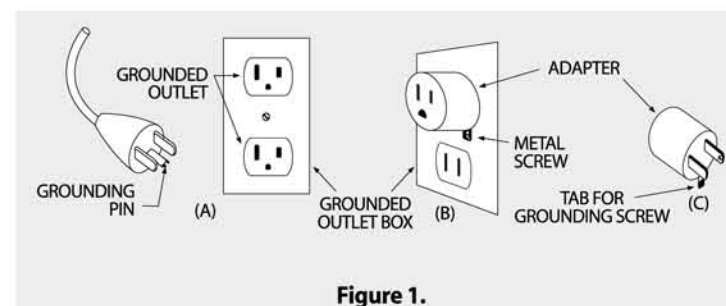

Figure 1.
Grounded cord-connected products, rated 15 A or more, intended for use on a nominal 120 V supply circuit. This product is for use on a nominal 120 V circuit, and has a grounding plug that looks like the plug illustrated in Figure 1(A). A temporary adapter, which looks like the adapter illustrated in Figure 1(B) and (C), may be used to connect this plug to a 2-pole receptacle as shown in Figure 1(B), if a properly grounded outlet is not available.
The temporary adapter should be used only until a properly grounded outlet, Figure 1(A), can be installed by a qualified electrician. The green tab, nut, or other connector extending from the adapter must be connected to a permanent ground, such as a properly grounded outlet box cover. Whenever the adapter is used, it must be held in place by the screw.